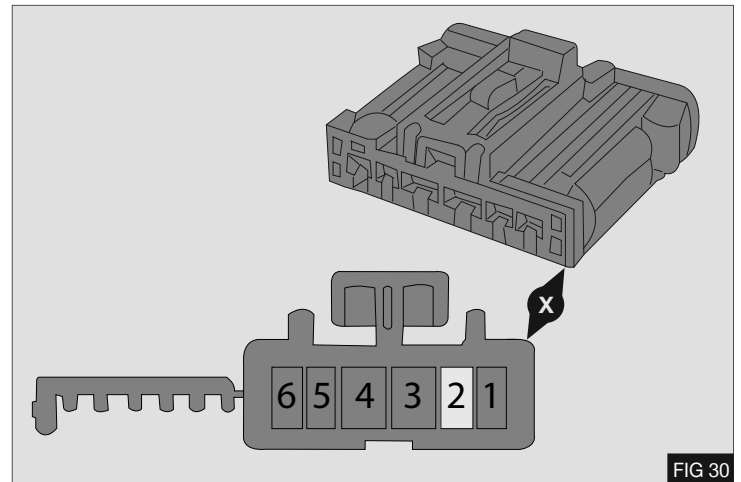

FIG 30
- The fast idle is activated by connecting pin 2 of the 6 way connector (X) to earth - Fig 30